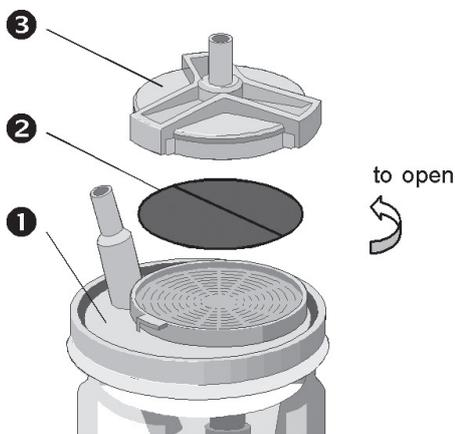

Fig. 6. Disposable bacterial filter plate
Using the cleaning agent Neodisher AN (manufactured by Dr. Weigert, Hamburg) cleaning in a special dish-washer is also possible. The disposable bacterial filter plate (fig. 6, page 13) must be removed before cleaning.
- The collection jar lid contains a disposable bacterial filter plate (2, fig. 6), which protects the interior of the unit against contamination and stops fluids due to its hydrophobic attribute. Together with the mechanical overflow safety, this filter avoids the sucking-in of secretion into the interior and, thus, the failure of the unit. The basic element of the filter material is a porous teflon layer which is put on a supporting material (polyester fleece). The pore size of the teflon material is 1µm.